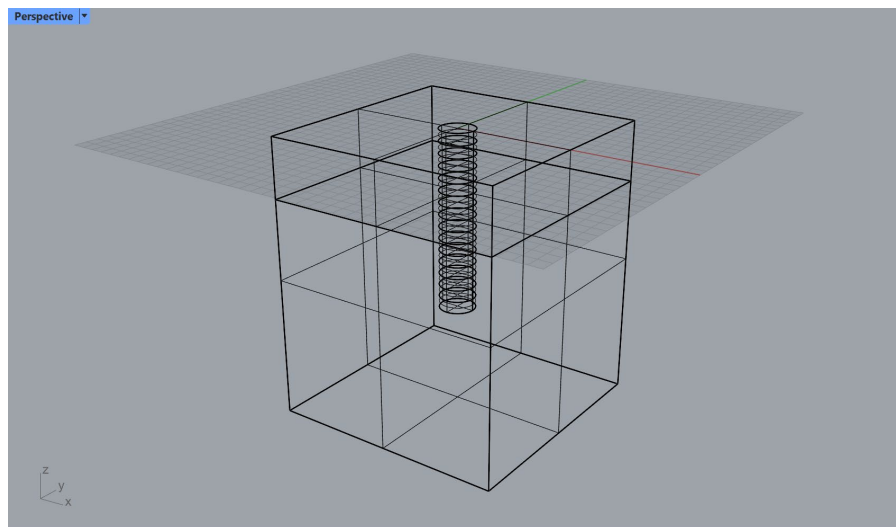

Figure 13: Complete initial geometry of the model of a shaft and two soil layers (Wireframe view).
13. Select all objects and type the command **_NonManifoldMerge** (or click on the  icon in the *Griddle* toolbar) to create a single non-manifold polysurface. This complex polysurface will serve as the initial geometry for meshing and is shown in Figure 13.